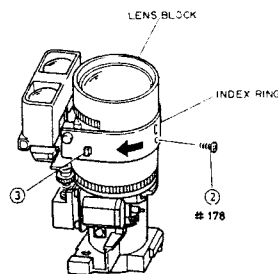
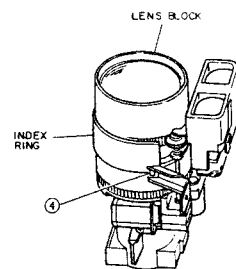

Fig. 2-106
Fig. 2-107
- 1) Set the zoom ring to the telephoto end and turn the focus ring to the infinity ( $\infty$ ) end. (See Fig. 2-106)
- 2) Remove one (1) screw holding the index ring.
- 3) Turn the index ring in the direction of the arrow to release one (1) tab.
- 4) Release one (1) tab holding the index ring. (See Fig. 2-107)